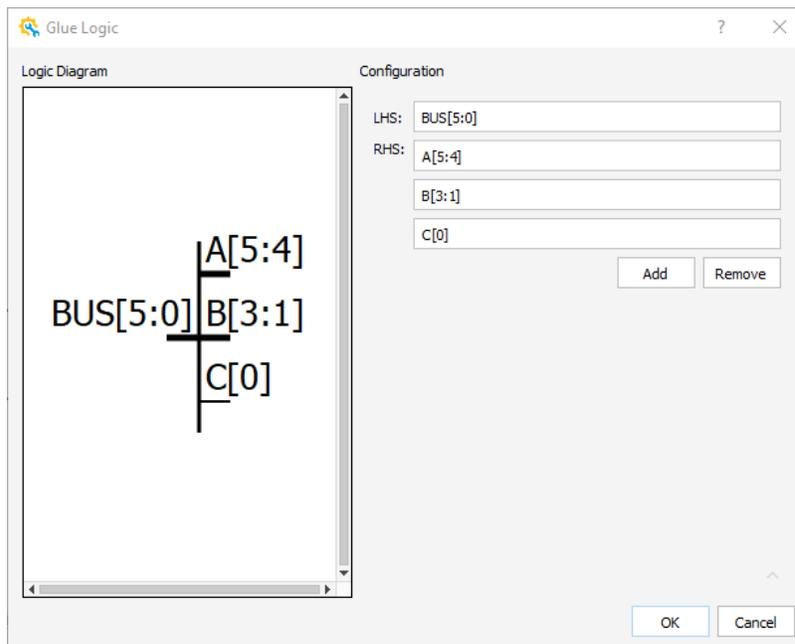

Figure 2.56. Glue Logic Wizard for Split Module
- From the IP Catalog, select the **split** module. Double-click the split module or drag and drop the split module to the Schematic view. A Glue Logic wizard (Figure 2.56) pops up.